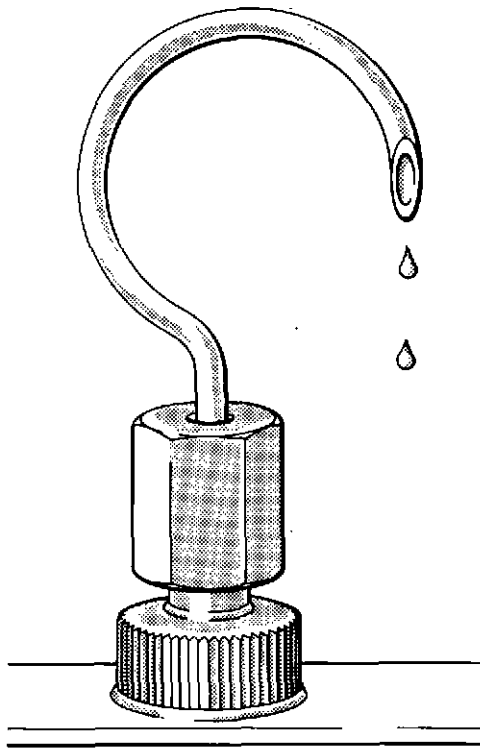

Fig. 24 Swan neck
- 109 Remove the delivery valve components from the next element in the injection sequence, i.e., No. 9 element, and connect a swan neck pipe to the delivery valve holder as shown in fig. 24. Turn on the oil supply.